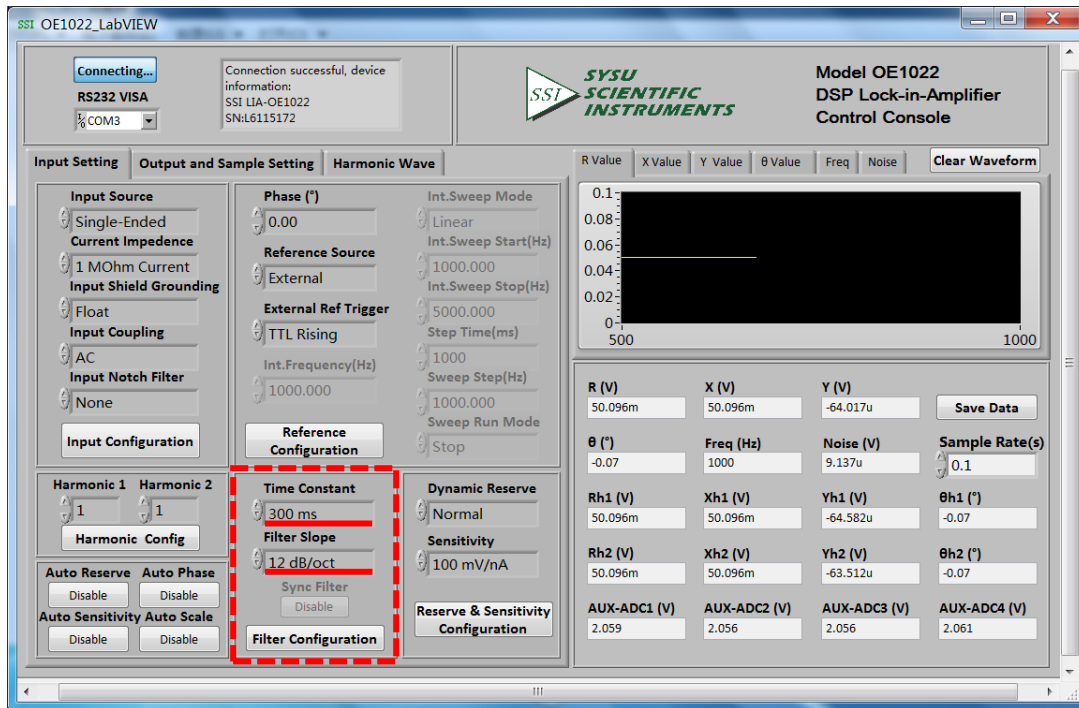

Fig.76 Filter Configuration Diagram
3. Choose these two options in filter configuration area, including time constant and slope of the filter with other options in default, as is shown in Fig.76. In the end, click the button